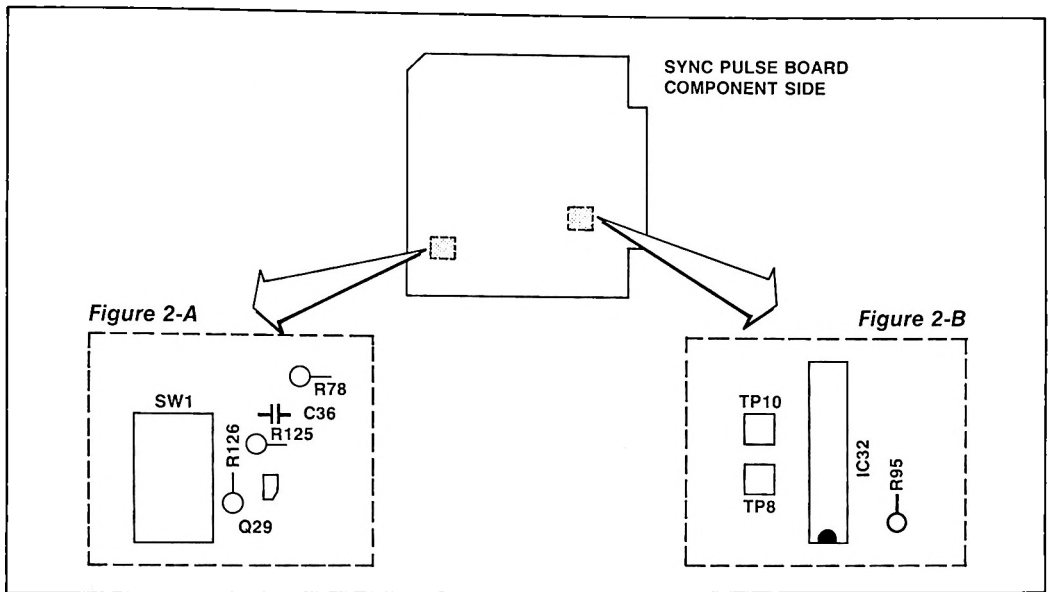

Figure 2
1. Remove capacitor C36 (Figure 2-A).
2. Replace R95 with 4700Ω resistor (Figure 2-B).